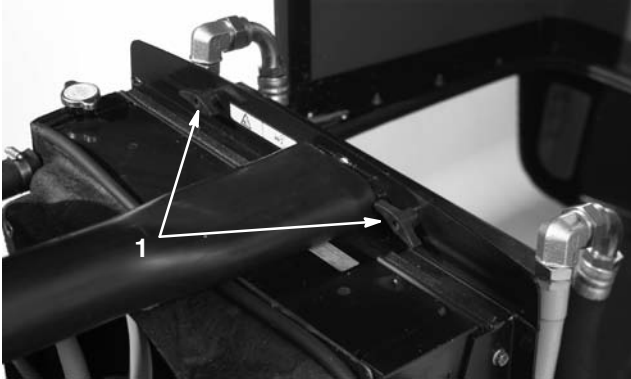

Figure 52
2. Remove the knobs (Fig. 52) securing the oil cooler to the frame.